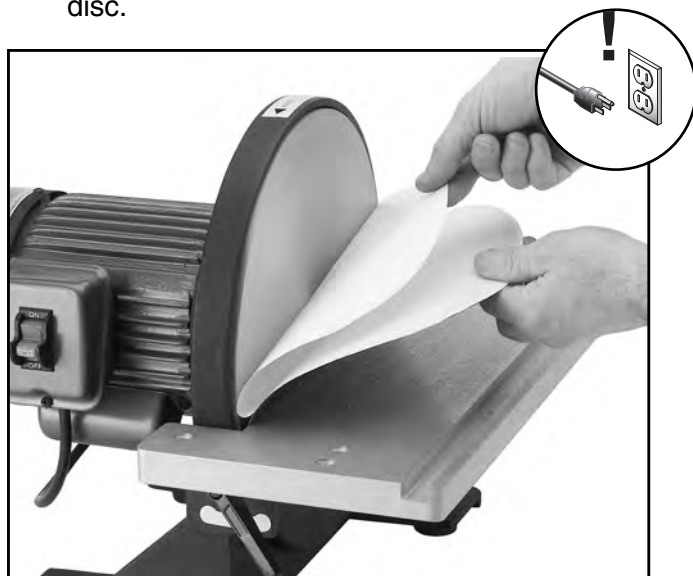

Figure 6. Removing protective layer.
5. Bend the paper back and remove the remaining half of the protective layer (**Figure 6**), and then press this portion against the disc.